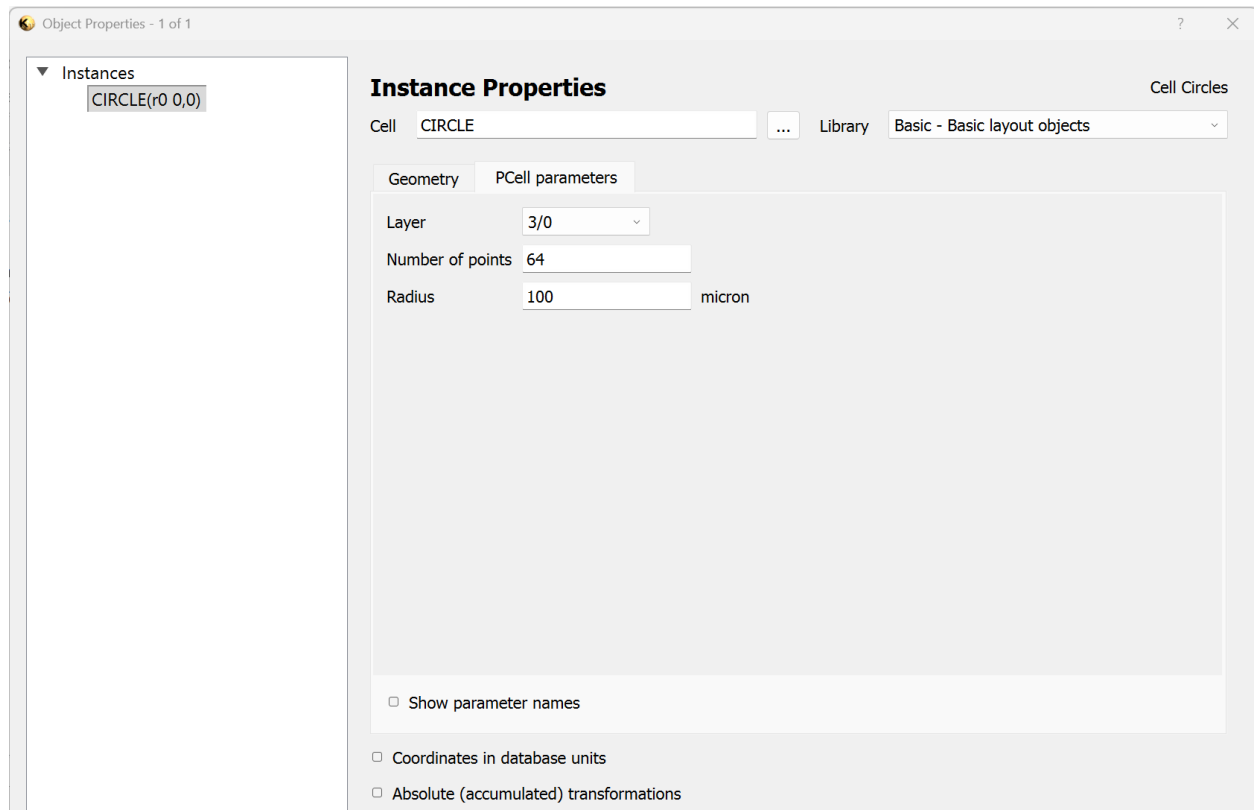

Figure 3: PCell parameters within the Instance Properties of the implemented circles.
6. The “Instance Properties” window opens, displaying the PCell parameters, including the current layer and the circle radius (see Figure 3).